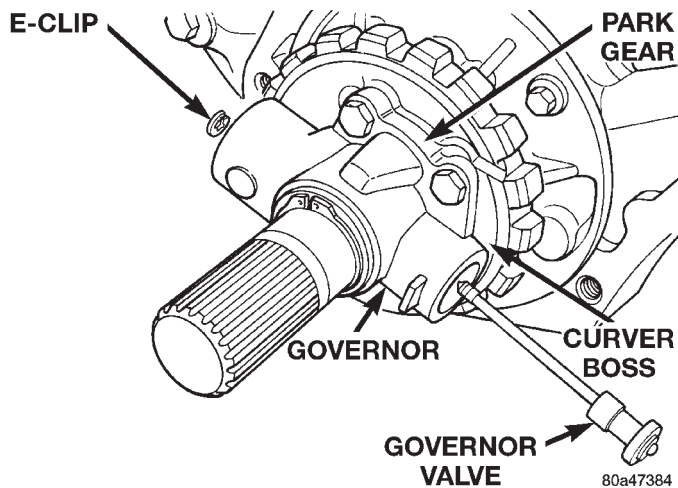

Fig. 31 Governor Valve
(1) Hoist and support vehicle on safety stands.
(2) Mark propeller shaft and axle yoke for assembly reference. Then disconnect and remove shaft.
(3) Disconnect parking brake cable at equalizer and disconnect exhaust components as necessary.
(4) Support transmission on a suitable lifting device.
(5) Remove skid plate and rear transmission mount.
(6) Remove extension housing.
(7) Loosen but do not remove bolts that hold governor body to park gear.
(8) Rotate transmission output shaft until governor weight assembly is accessible.
(9) Remove E-clip at end of governor valve shaft (Fig. 31).
(10) Remove governor valve and shaft from governor body (Fig. 31).
(6) Insert governor valve and shaft through governor and install E-clip (Fig. 31).
(7) Install extension housing and gasket on transmission. Tighten housing bolts to 32 N·m (24 ft. lbs.).
(8) Install rear transmission mount and skid plate.
(9) Install speed sensor and speedometer components and connect speed sensor wires.
(10) Connect exhaust components and brake cable, if removed.
(11) Install propeller shaft.
(12) Remove supports and lower vehicle.
(13) Check transmission fluid level. Add fluid if necessary.